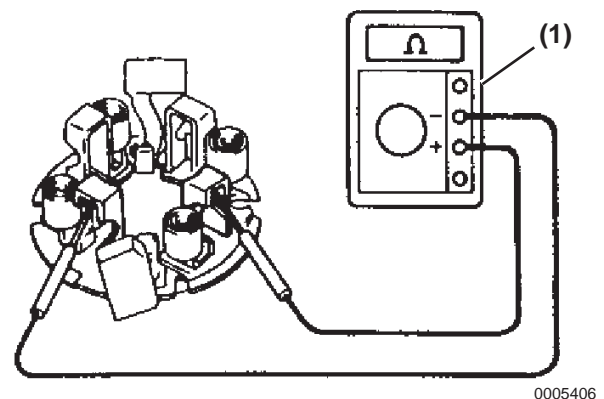

Figure 10-19
3. Using an ohmmeter (**Figure 10-19, (1)**) check the brush holder insulation. The circuit between the brush holder positive (+) and negative (-) should not have electrical continuity. If continuity is measured, repair or replace the brush holder.